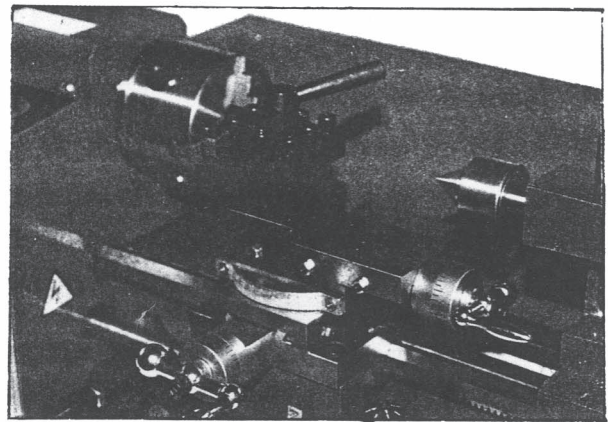

Fig. 5
7. Check the Compound Rest Crank and the Cross Feeding Crank to see that they work properly. If the cranks are too tight or too loose, turn the adjusting screws located at both sides (see figure 5 below).